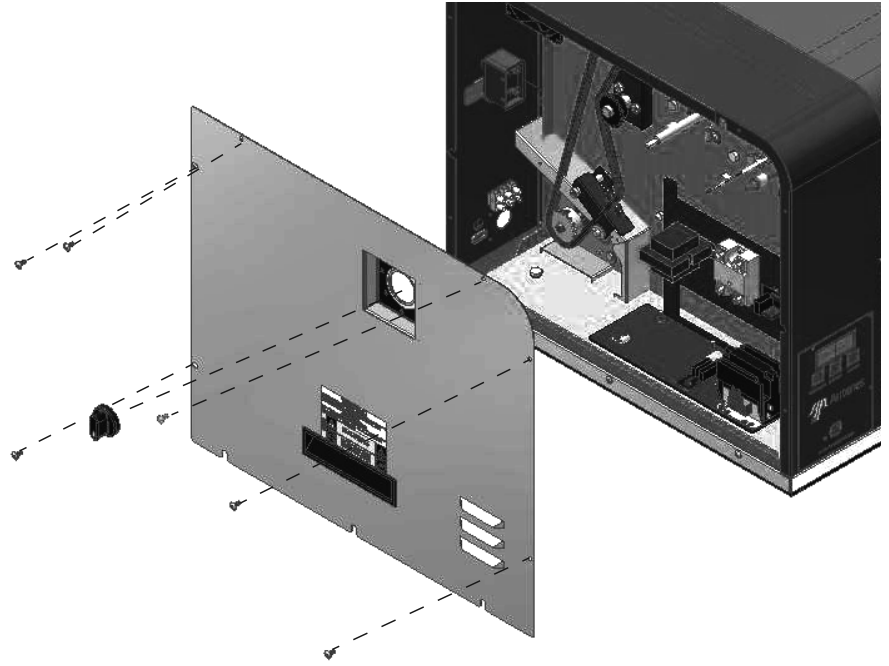

Figure 7. Accessing the cooling fan
3. Using the handle, remove the left side cover of the unit by lifting up and away from the unit (See Figure 7). Set aside.